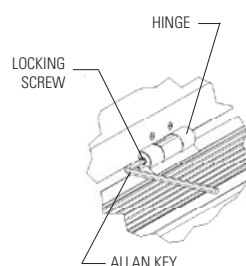

FIG.7
2. Lock in place inserting locking screws through hinge. (Fig.7)